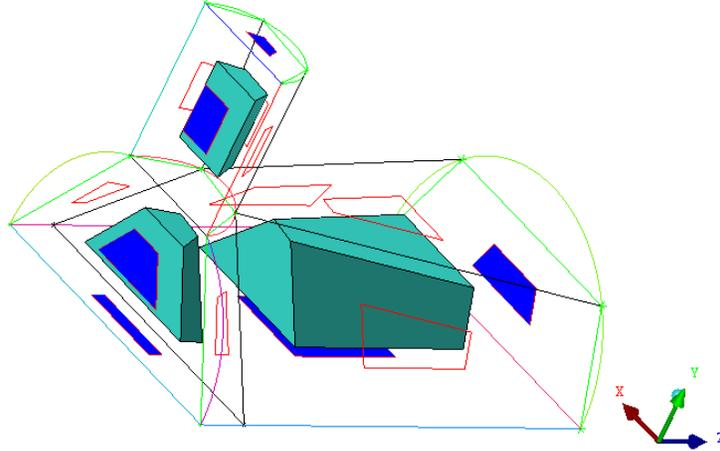

Figure 14: Selected Blocks and Faces
- (c) Click  (Select face(s)) and select the faces representing the planar geometry (INL, SYM, OUT). See Figure 14. You can also select the faces using any of the following: